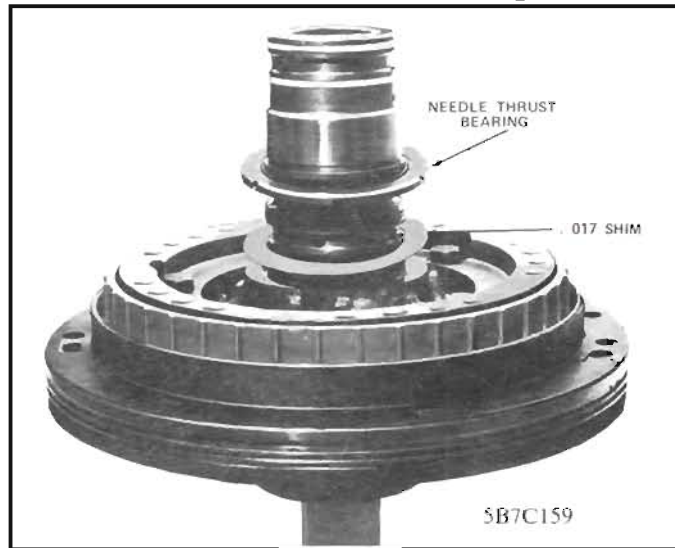

Figure 95 Pump Shim and Needle Bearing
1. Install original amount of .017 shims and needle thrust bearing lip side face down on pump cover hub. Before installation apply petrolatum to both sides of shim and bearing. *See Figure 95.*
Push on end of output shaft to move shaft forward the reading obtained should be between .010 and .044. If the reading is incorrect remove pump assembly and install enough .017 shims to obtain correct reading. See Figure 95.